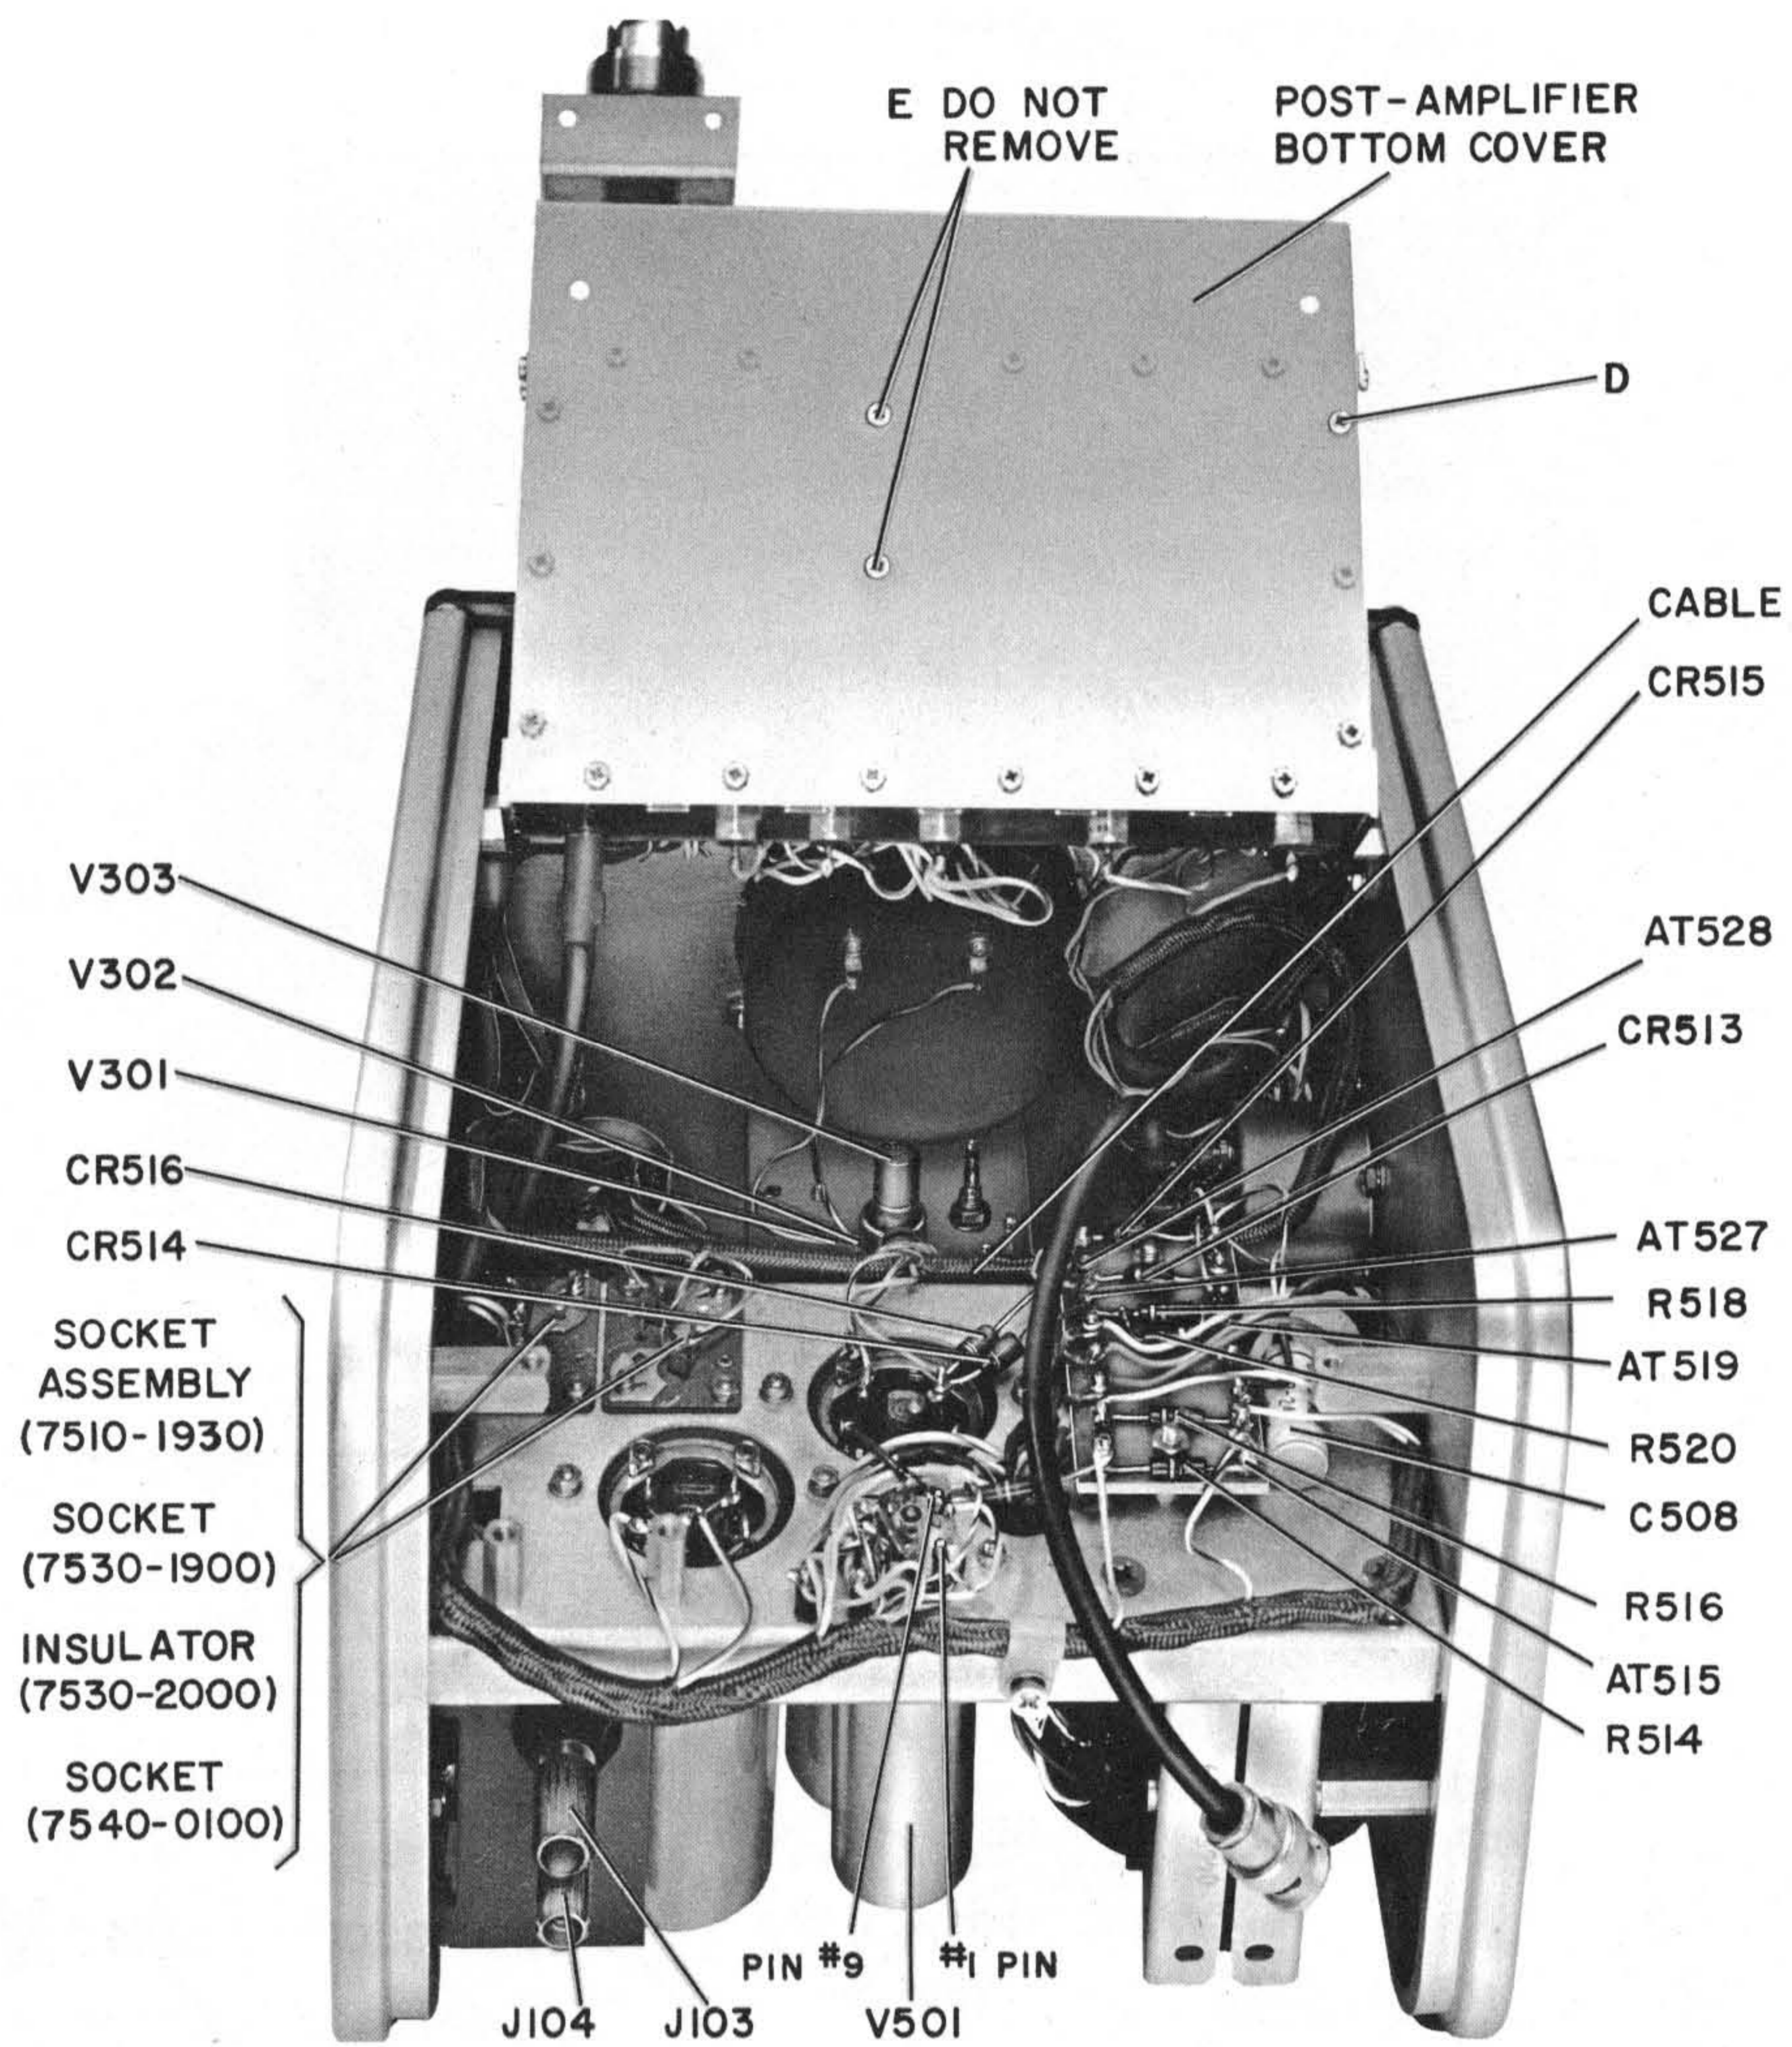
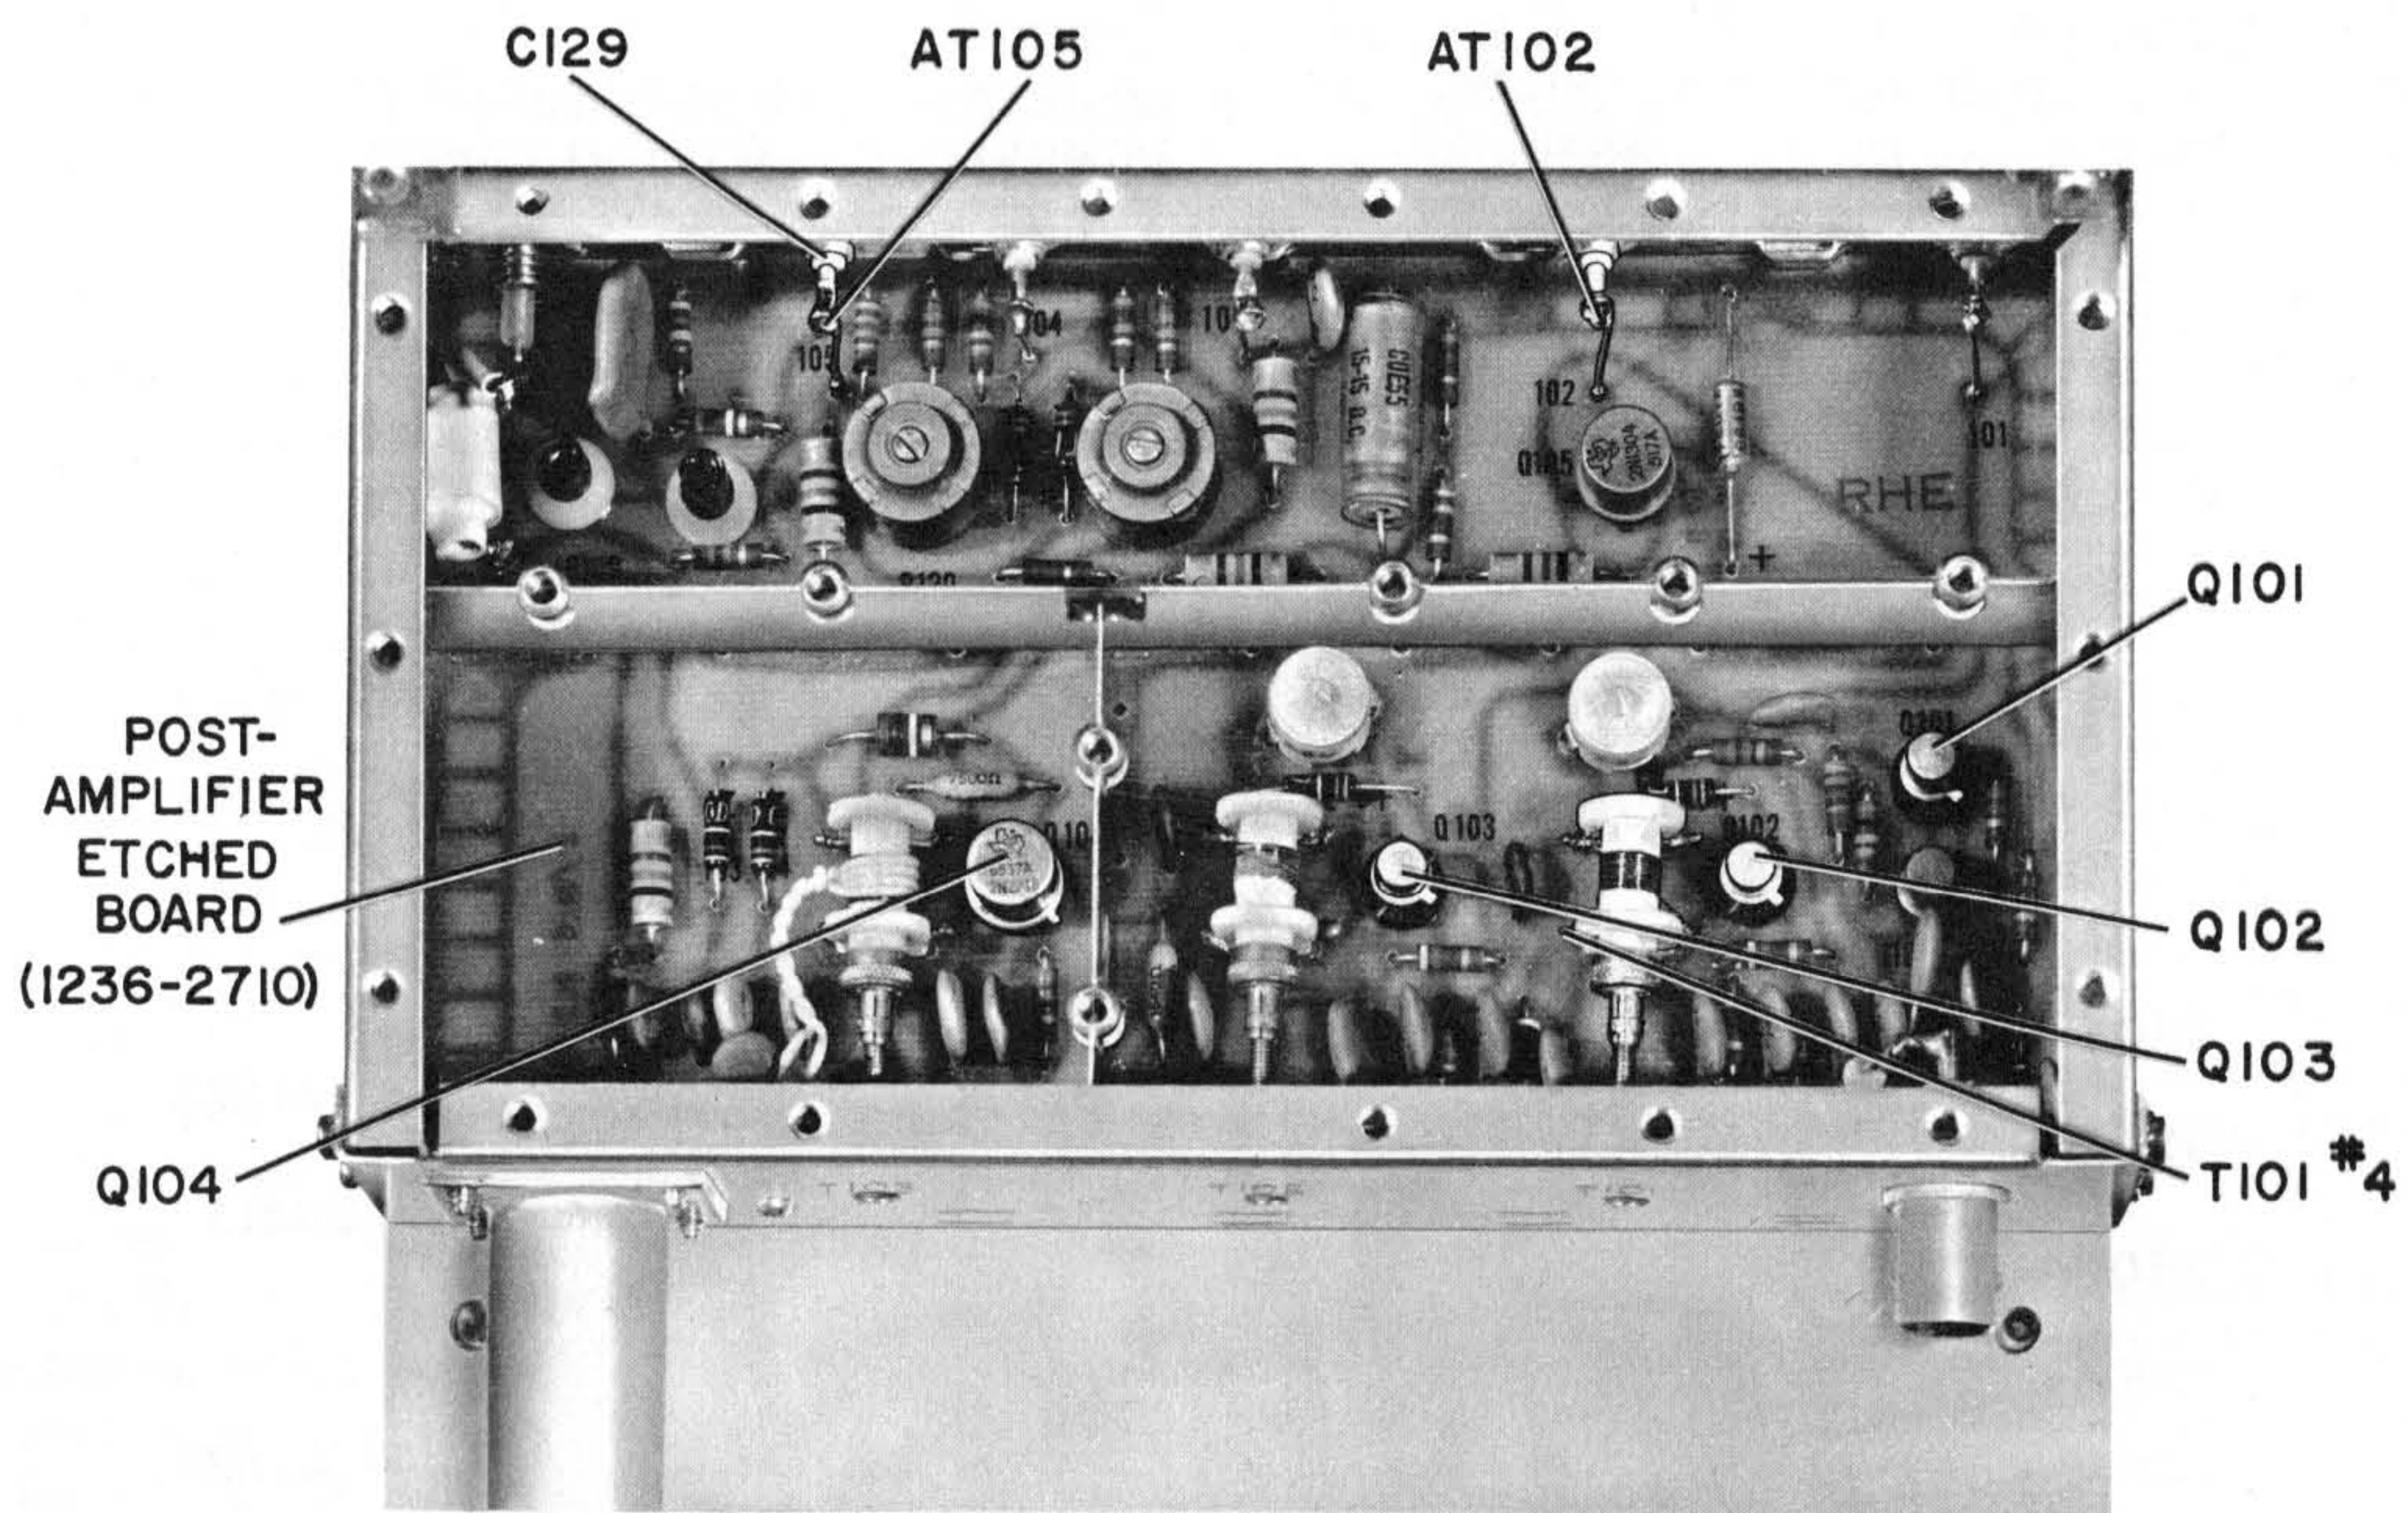
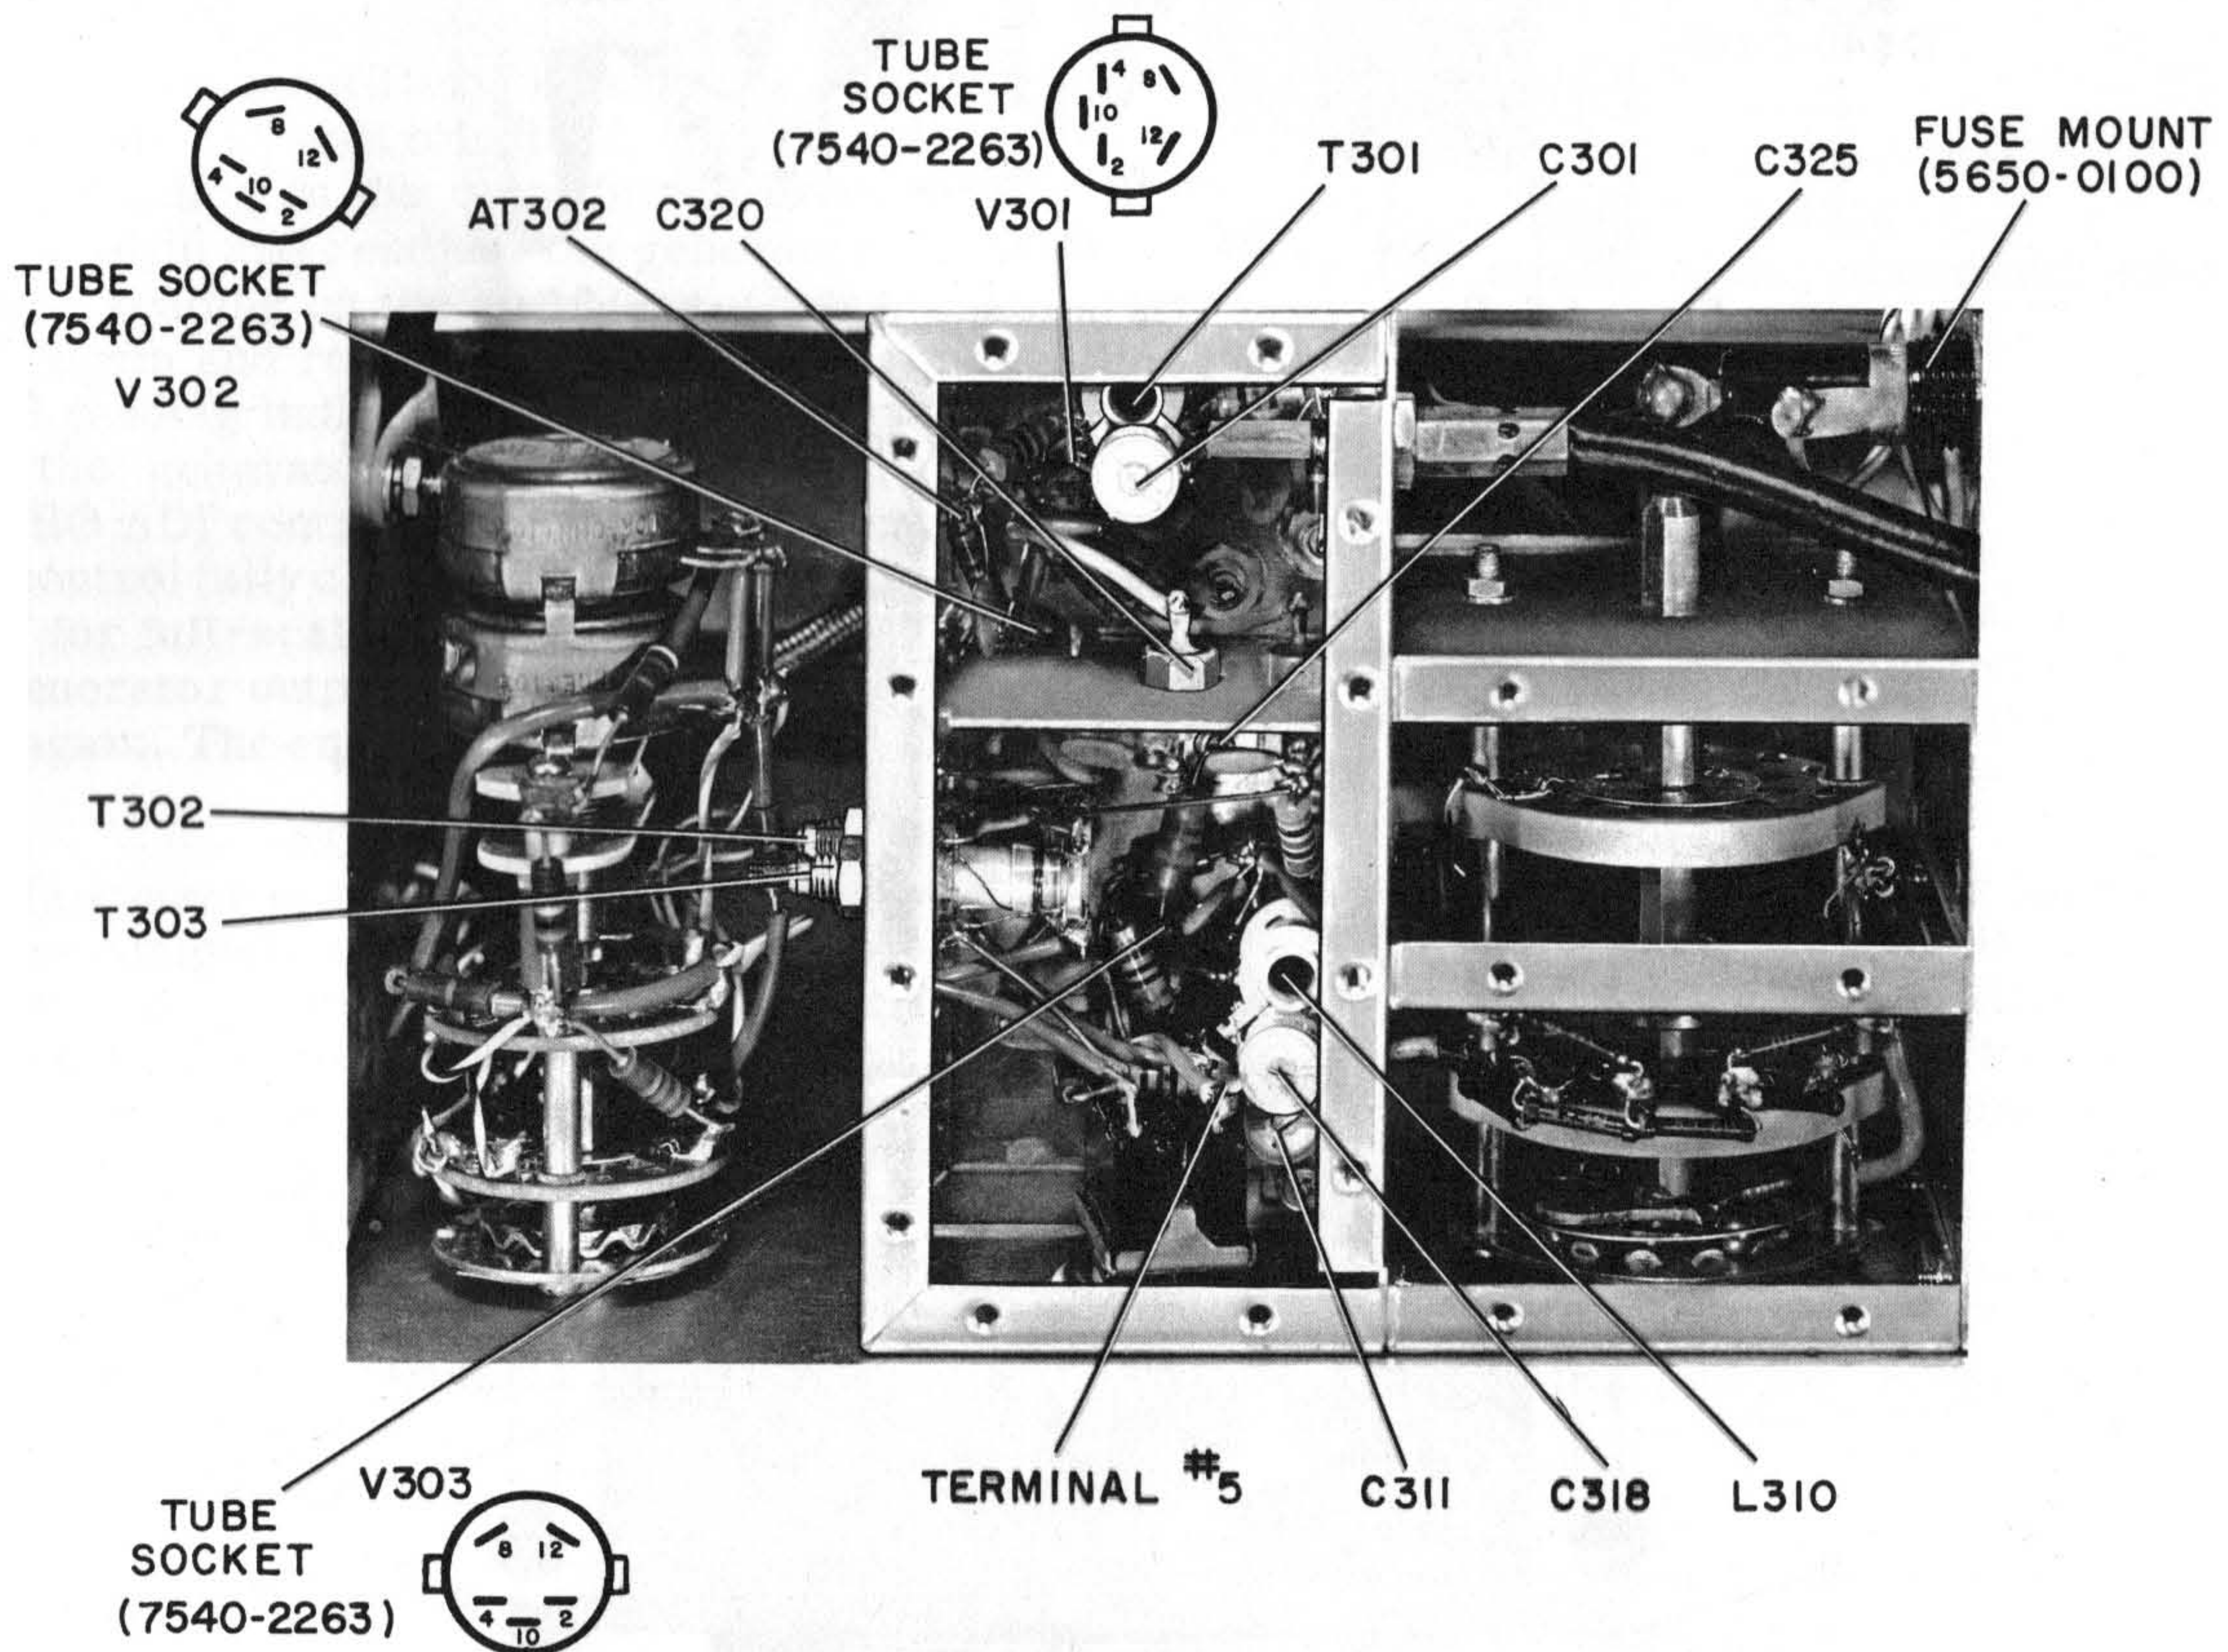
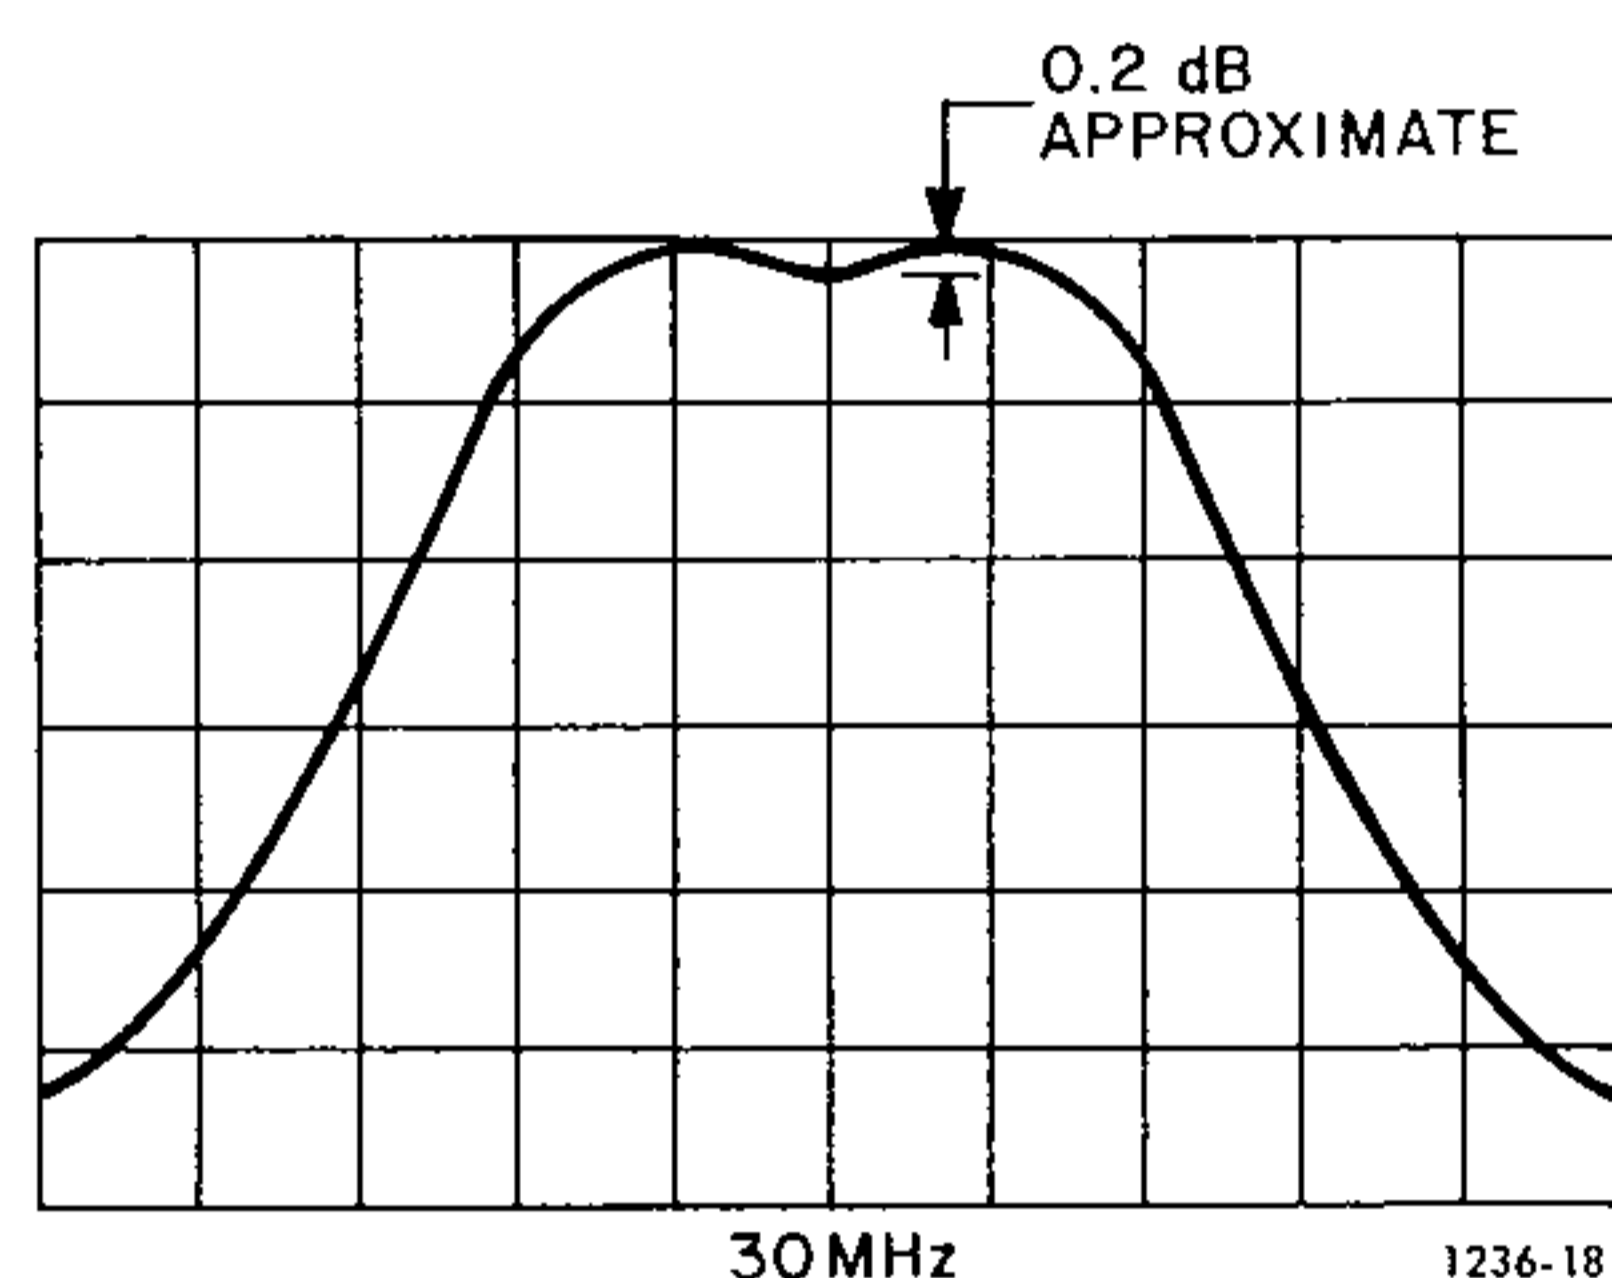

Figure 5-5. Rear view of 1236 interior with the post-amplifier box raised to its vertical position.
Figure 5-7. Interior view of 1236 post-amplifier box.
Figure 5-8. Interior view of 1236 attenuator/preamplifier box.
Figure 5-9. 1236 bandpass curve centered around 30 MHz.
- c. Connect C129 (feedthrough capacitor at AT105 in the postamplifier box, see Figure 5-7) to the oscilloscope input. (Connect C129 to the EXTERNAL RESPONSE DETECTOR jack on the generator if the GR 1025 Standard Sweep Generator is used.) Adjust the oscilloscope sensitivity so that full-scale spot deflection on the screen corresponds to full-scale deflection on the amplifier meter. Set the generator output to 200 μ V OPEN-CIRCUIT VOLTAGE and switch to the sweep mode. The bandpass curve on the oscilloscope should have a 5-MHz bandwidth at the 3-dB points, centered around 30 MHz, and a full-scale vertical deflection at 30 MHz.
a. Turn the amplifier upside down and remove the cover on the preamplifier-attenuator box. Connect the attenuator cable to the postamplifier. Measure the dc voltage from C320 (see Figure 5-8) to ground. If this voltage is greater than 6.3 Vdc, interchange V301 and V302 (see Figure 5-5).
b. Connect the sweep generator to the amplifier input via the 50 Ω - 400 Ω matching pad as described in step a of the preamplifier performance check. Make certain to connect the 400- Ω side of the pad directly to the amplifier. Connect the input of the oscilloscope to AT302 (see Figure 5-8), using the detector probe. (If the GR 1025 is used, connect the EXTERNAL RESPONSE DETECTOR to AT302 via the detector probe.)
Connect a 100- Ω resistor between terminal #5 (see Figure 5-8) on the bandwidth switch, and ground.
d. Switch the generator to the SWEEP mode and increase the generator output until the bandpass curve is displayed on the oscilloscope (vertical deflection, maximum 50 mV/cm). Adjust C301 and T301 (see Figure 5-8) for a maximally flat bandpass curve centered around 30 MHz. See Figure 5-9. (Start the T301 adjustment with the tuning slug screwed all the way in toward the threaded end of the coil form.)
f. Set the amplifier METER SCALE switch to NORMAL and the ATTENUATION to 30 dB. Shut off the generator SWEEP mode and set the frequency to 30 MHz. Adjust T302, L310, and C318 (see Figure 5-8) for maximum amplifier-meter deflection. After initial adjustment, do not touch T301, and repeat L310 and C318 adjustment for maximum meter deflection.
Set bandwidth switch to NARROW and adjust T303 and C311 (see Figure 5-8) for maximum meter deflection. Switch to WIDE bandwidth.
g. Connect C129 (see Figure 5-7) to the oscilloscope input. If the 1025 is used, connect C129 to the EXTERNAL RESPONSE DETECTOR jack on the sweep generator. Set the sweep generator to SWEEP and adjust T302, if necessary, (see Figure 5-8) to obtain a symmetrical curve around 30 MHz. Switch to the NARROW bandwidth. Again, the response curve should be symmetrical around 30 MHz. Readjust T303 and C311 if necessary.
30 MHz. Switch the ATTENUATION to 0 dB and adjust the generator output for a 0-dB reading on the amplifier meter. Switch the ATTENUATION to -10 dB. The meter should read 10 \pm 0.2 dB. If the reading is too low, turn the SWEEP back on and adjust L310 (see Figure 5-8) so that the peak of the curve moves slightly to the right of 30 MHz. Bring the peak back to 30 MHz by adjusting C318.